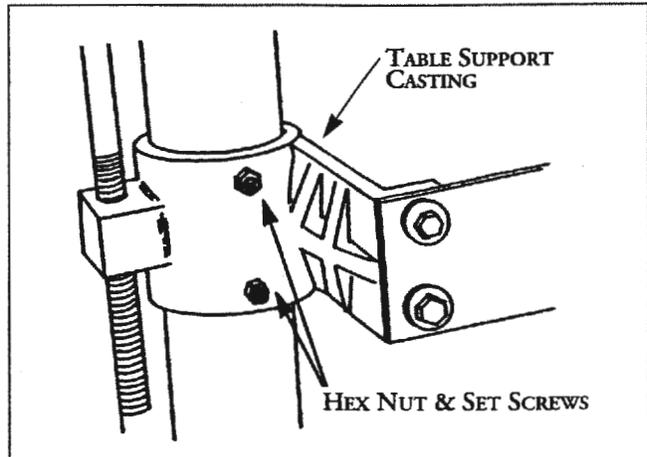
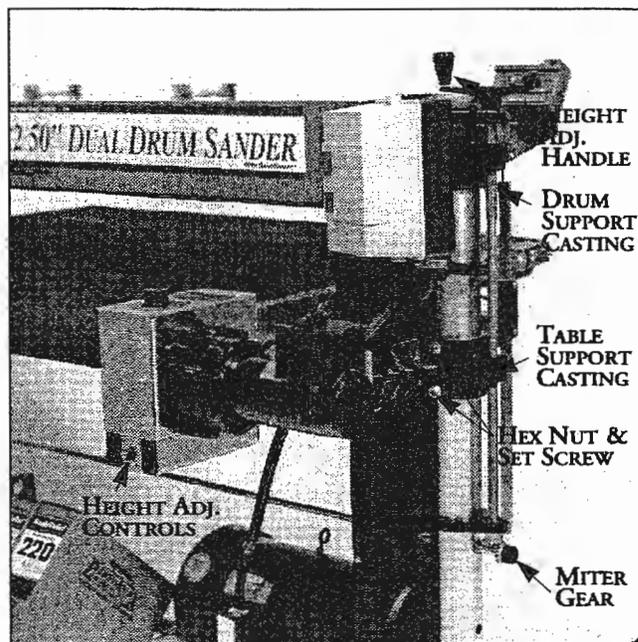

Fig. 3. Table support casting and set screws.
Fig. 11. Table height adjustment mechanism.
2. Loosen the hex nut and set screws on the table support castings (Fig. 3). The set screws on the table support castings have been tightened at the factory to eliminate free-play between the table support casting and the column tube during shipment. There are two table support castings on the SUPERMAX, one each for the right and left column tubes. Important: These set screws are tightened for shipping and must be loosened and readjusted before operating either the height adjustment mechanism or the conveyor drive.
The table height and depth of cut is controlled by the height adjustment handle (see Fig. 11). Turning the handle raises or lowers both sides of the table simultaneously by transferring the handle rotation through the miter gear and cross bar assembly.
Important: Before using the height adjustment, be sure to loosen both the set screws located on the front of both table support castings (see Fig. 3 and Fig. 11) to allow the table support to slide on both column tubes. These set screws are tightened for shipping and must be loosened and readjusted to allow the table support castings to move freely on the column support tubes. Readjust the set screws just so they eliminate free-play between the table support casting and the column tube. To properly
adjust, tighten the set screws (see Fig. 3) only finger-tight so they lightly touch the column tubes. Then hold each set screw in position with an Allen wrench and tighten the hex nut.